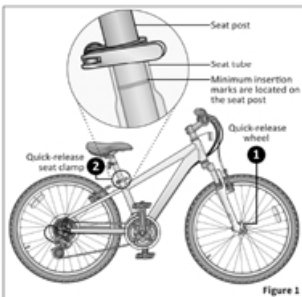

Figure 1
- 1 Some bicycles will come equipped with quick-release levers for the front wheel. The wheels must be securely locked. Ensure the wheel quick-release lever is firmly locked in place. **Figure 1**